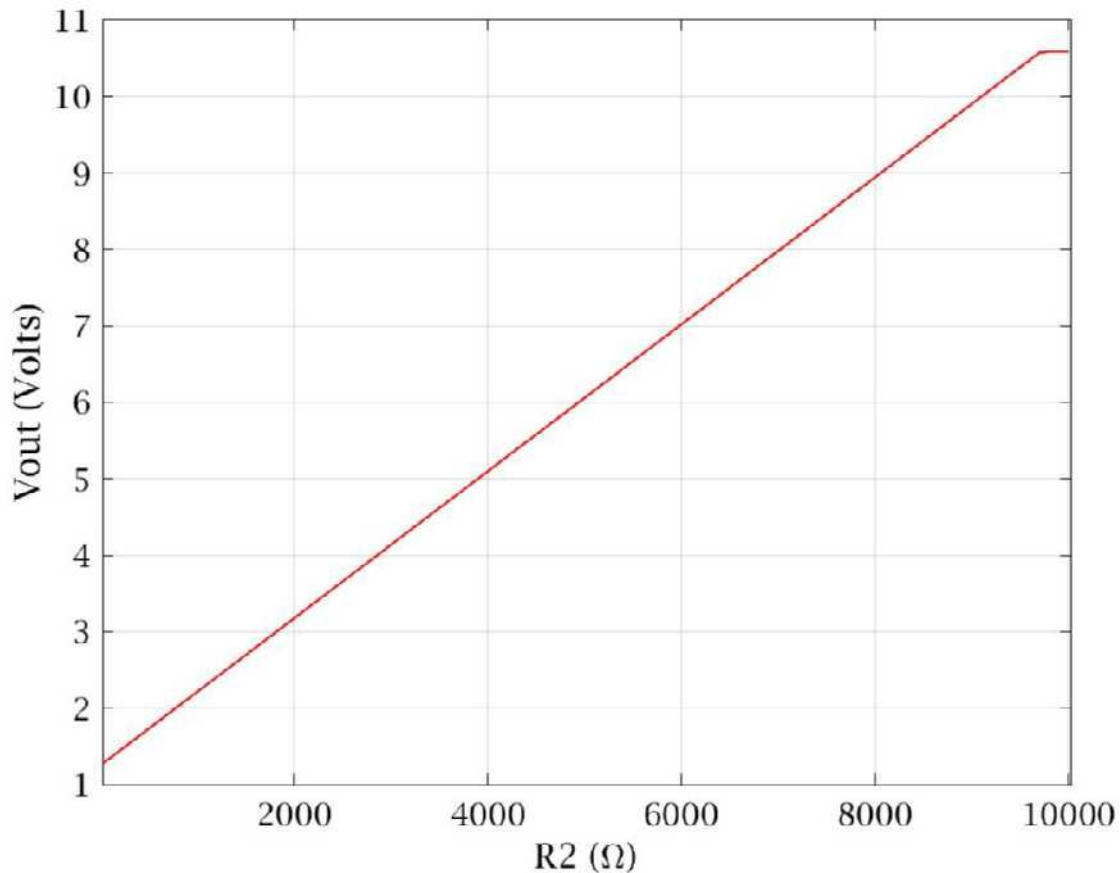

Figure 6. Output voltage vs. value of R2 modeled with measured and optimized R1.
5. Figure 6: The first schematic diagram is often the simplest circuit to use (test) the IC, and it's followed by what we might call the characteristic equation that describes the circuit's operation, both copied in Fig. 3:
Design an LM317 power supply with $R2 = 10k$ pot, and find the value of an optimal $R1$ such that the slope intersects intersects with `Vmax` just before the maximum of R2 (as in Fig. 6). You could do this by algebraically manipulating the characteristic equation (in Fig. 3), but perhaps a much easier approach is trial and error. Iteratively tweak the value of $R1$ above and rerun the simulation (click the "Run" button in the Live Editor top taskbar) until you get close to the desired result (Fig. 6).